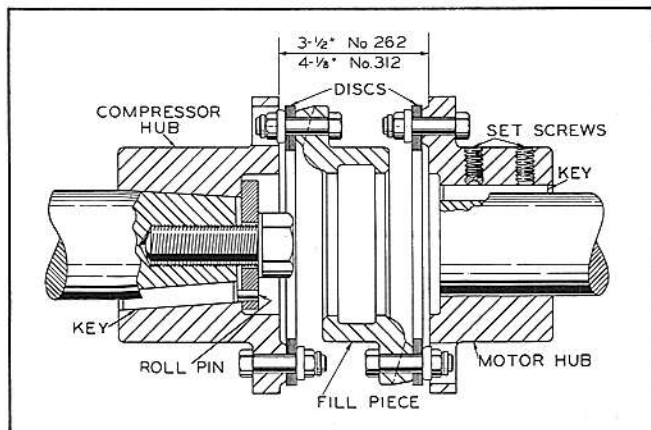

Fig. 19 - Flexible Coupling - Type AMR
Fig. 19 illustrates the application of this coupling to the 3-3/4 X 3 compressor. Note that the 3/8" thick washer is held from turning by a roll pin projecting into the coupling keyway space.
- (c) Place the motor on the base so that the distance between the couplings is 3-1/2" for the 262 AMR or 4-1/8" for the 312 AMR. (See Fig. 19) If a sleeve bearing motor is being used, determine its magnetic center and place the rotor in this position.